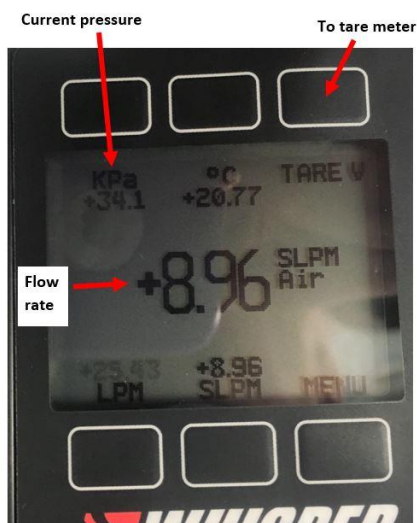

Figure 29. Tare MFMs Quarterly.
The Mass Flow Meters (MFM) used in the Eddy Covariance Storage Exchange system are subject to drift over time. The Alicat manual states “Taring is an important practice that ensures that your flow meter is providing the most accurate measurements possible”. Drifts of over 0.7 SLPM have been observed and large drifts may create the appearance of leaks or clogs. Conduct this procedure quarterly. Follow Steps 1-5 with **Figure 29** below.
3. If it is greater than ± 0.1 SLPM, then press the Tare V button on the MFM in the upper right corner (reference **Figure 29**).